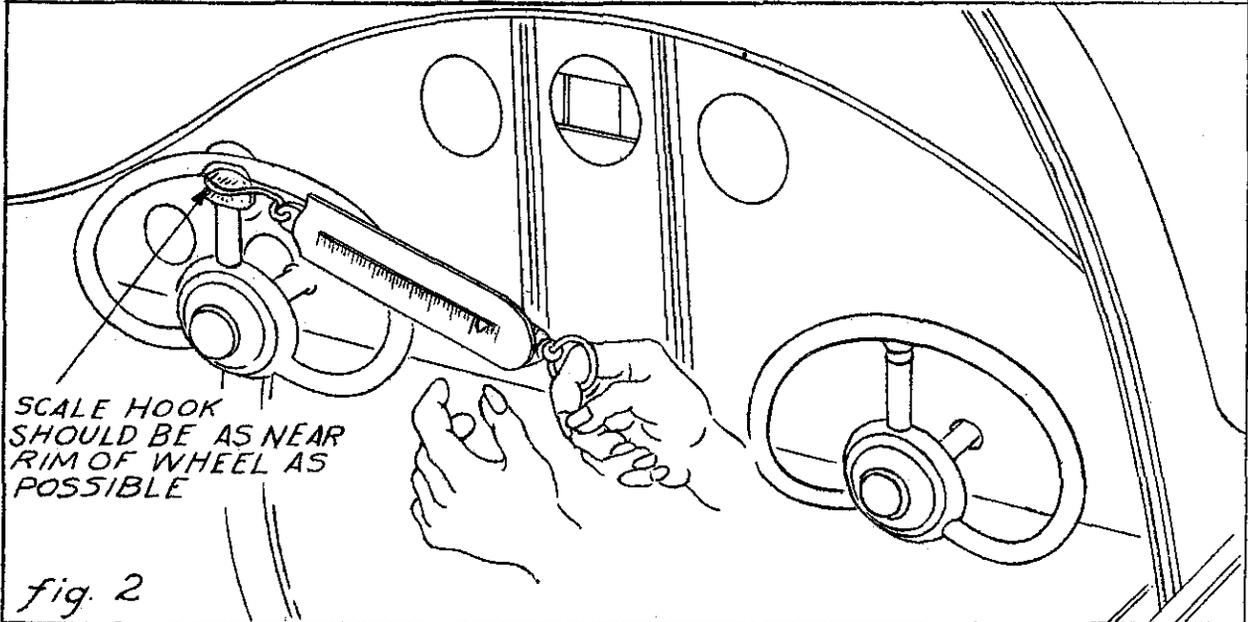
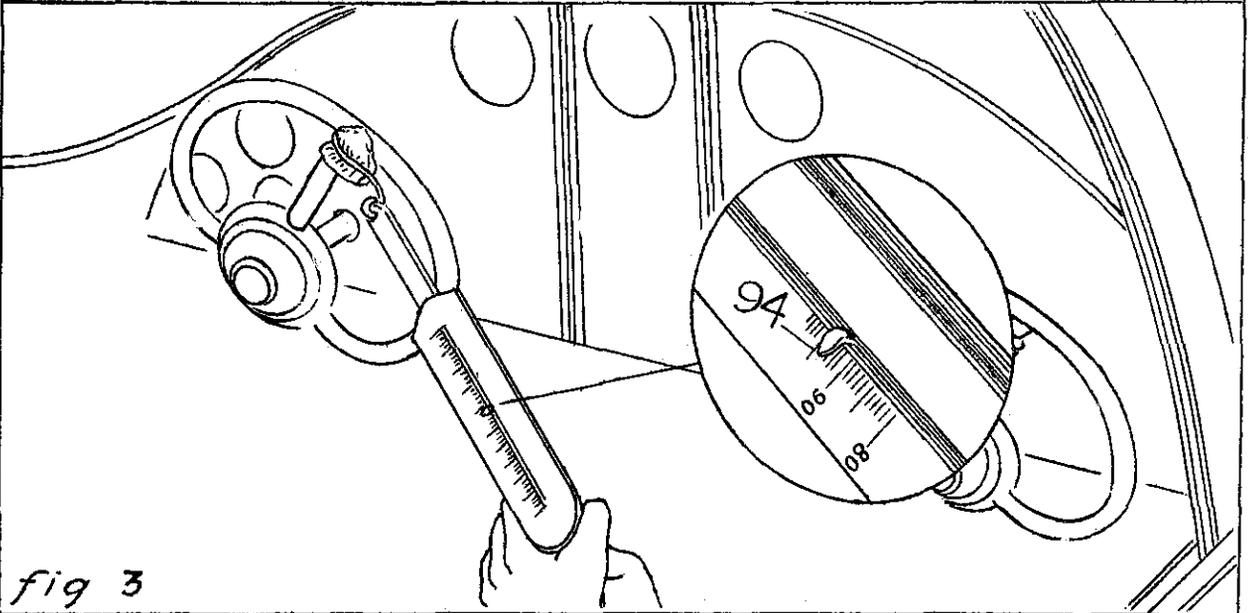

fig. 2
fig 3
3. Push in the throttle and the hand brake levers to give clearance for test. Place the scale hook around the spoke of left control wheel just inside the rim and use sufficient padding to avoid damage to control wheel, as shown in Figure 2. The wheel should be pulled out from instrument panel just far enough to clear throttle and hand brake levers. Pull scale to right, keeping it at right angles to the spoke of the control wheel, until the scale reads 94 pounds. (Two men may be required.) By the time the full load has been applied the scale will be close to a vertical position, as shown in Figure 3. Do not exceed 94 pounds, because this is merely a proof test and a higher load might damage the control system. As soon as the 94 pound value has been reached slack off gradually until the load is entirely relieved.
6. Rotate control wheels by hand again to determine the neutral position as in item 4, and also if there has been an appreciable increase in slack. A slight amount may be expected because of the effect of